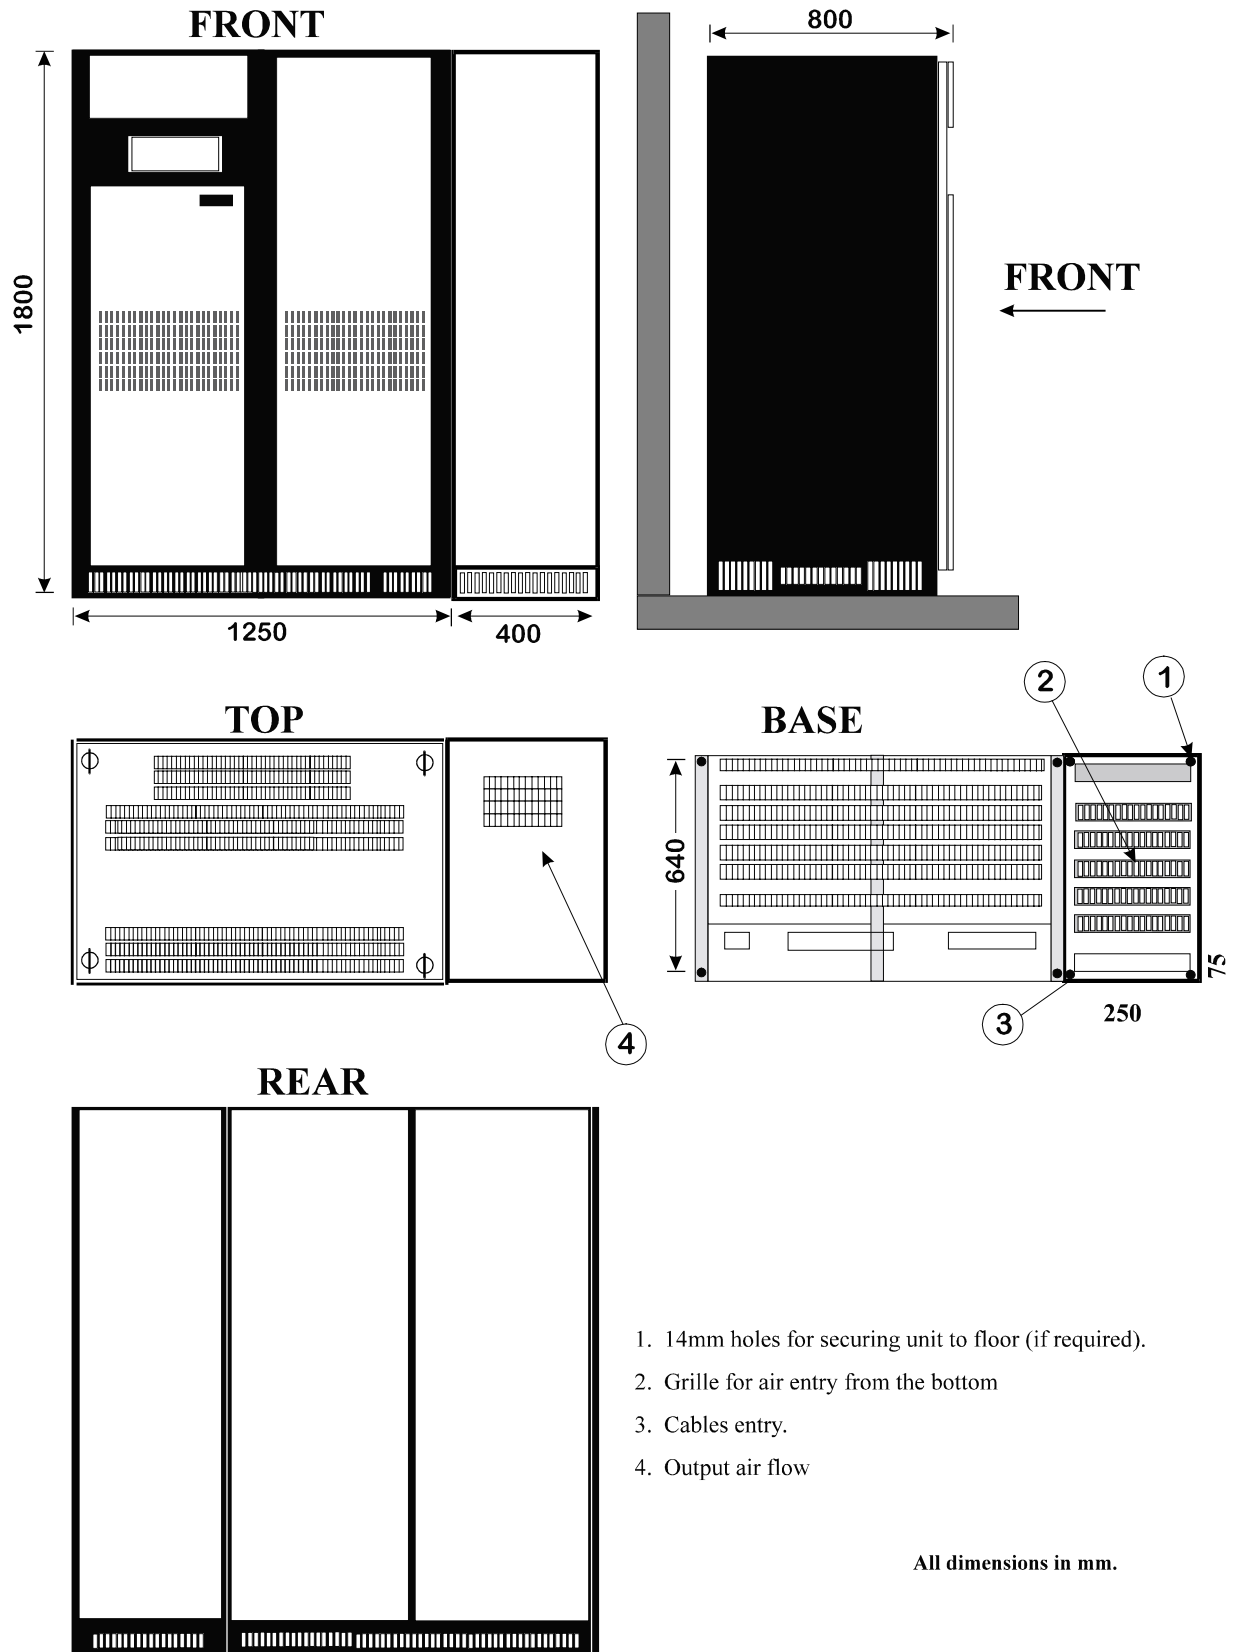

Figure 3-6 . Installation Diagram for 120 kVA Module 12 Pulse
Place the cabinets in their final position as shown in figure 3-6 ensuring any protective packaging is removed (Inverter Cabinet on the right and Rectifier/Static Switch Cabinet on the left), and connect them together following the procedure below:
3. Locate the four a.c. busbars from the Output Isolator numbered 7(R), 8(S), 9(T) and 10(N) in the Rectifier/Static Switch cabinet and the linking straps connected to them. Take the free end of the linking straps and connect them to the Inverter cabinet a.c. busbars ensuring correct phase connection as illustrated in figure 3-6.
7. Using the two angled copper busbar links provided, connect the Rectifier/Static Switch cabinet d.c. busbar to the Inverter Cabinet d.c. busbar as illustrated in figure 3-6.
8. Locate the flat cable assembly FC17 from CN8 on the Inverter Logic board in the Inverter cabinet and secure to the end panel, in the position illustrated in figure 3-6.
10. Locate wires 27, 28, 29, 30, 31, 32, 33, 98 & 99 terminated in connector CN4 and wires 7, 8, 9 & 10 terminated in connector CN5 in the Inverter cabinet and secure the connectors into cabinet end panel in the positions illustrated in figure 3-6.